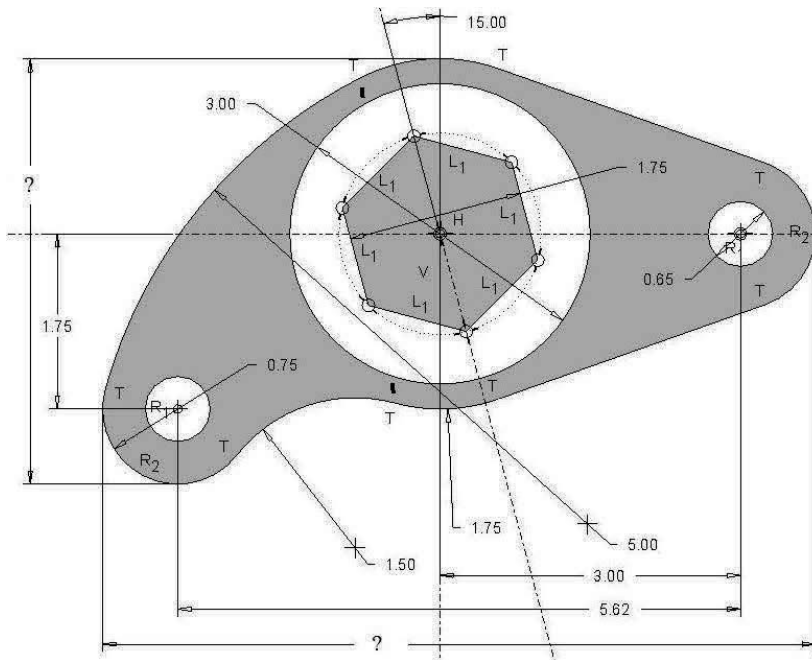

Figure 3-73 Problem 4
**3.4** Draw the front view of "rocker\_arm" (Figure 3-73). **Design Intent**—The hexagonal shaped hole of the rocker must be offset by 15 degrees. The right 0.65-inch diameter hole must be 3.00 inches from the center hex hole. The left 0.65-inch diameter hole must be 5.62 inches from the right hole. What is the overall size of rocker arm?